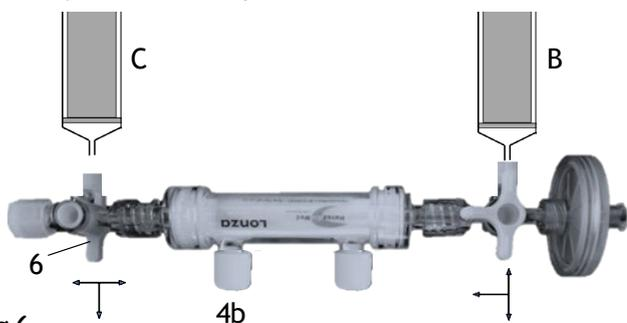

Fig 6
- Rotate the valve in position 6 as indicated in figure 6 and disconnect the syringe C.